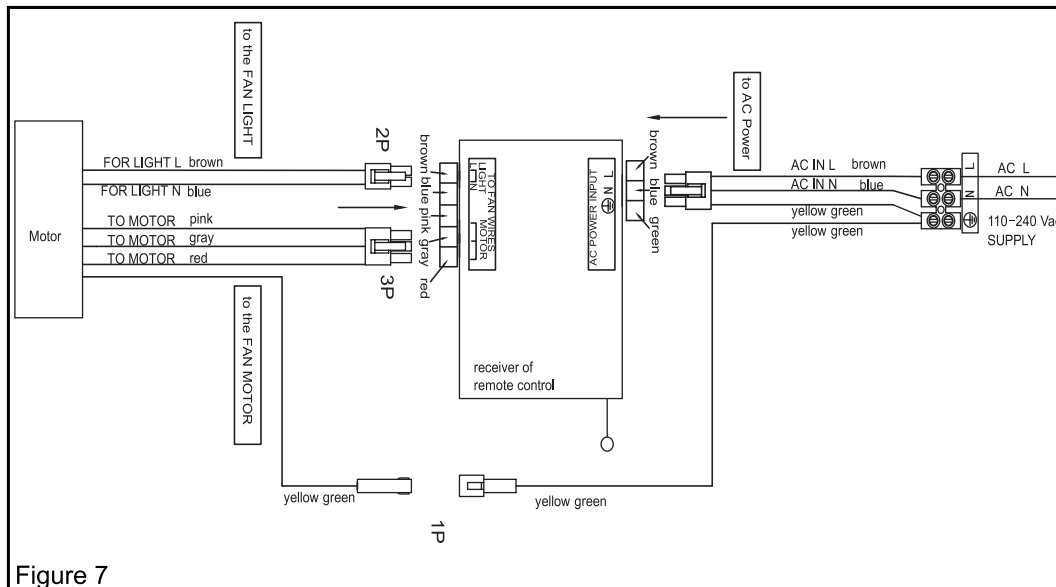

Figure 7
- Connect the 1P yellow/green connectors of fan motor assembly to hanging bracket. (Figure 7)